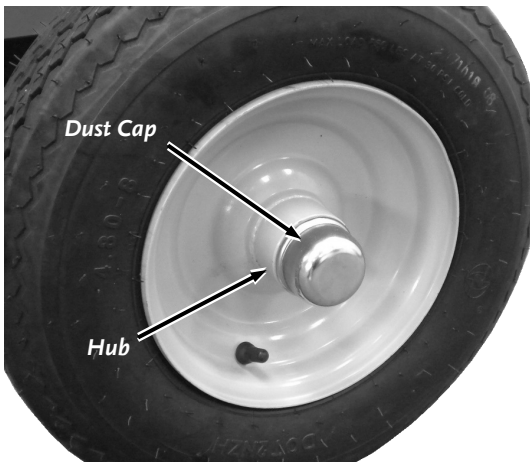

Figure 49
2. Pry the Dust Cap off from the Hub, using a Flat Tip Screwdriver (Figure 49).